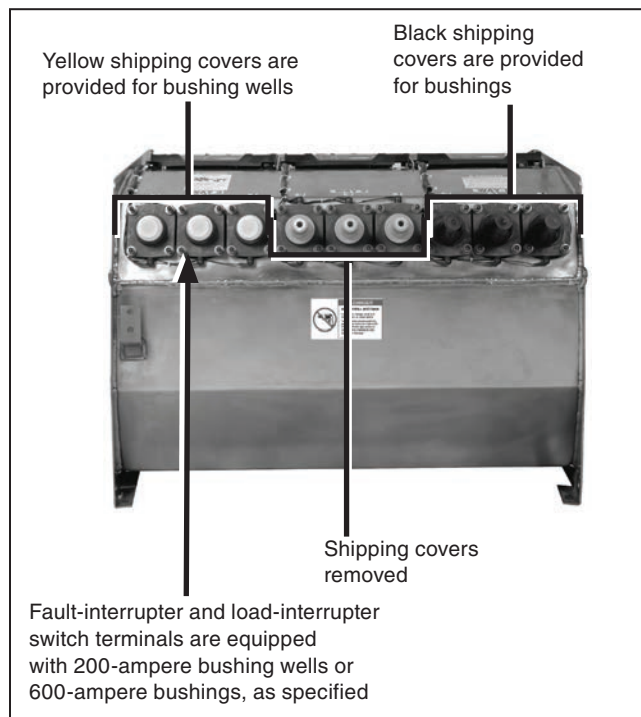

Figure 5. Shipping covers on bushings and bushing wells.
STEP 3. Remove the shipping covers from the bushings and bushing wells. See Figure 5.